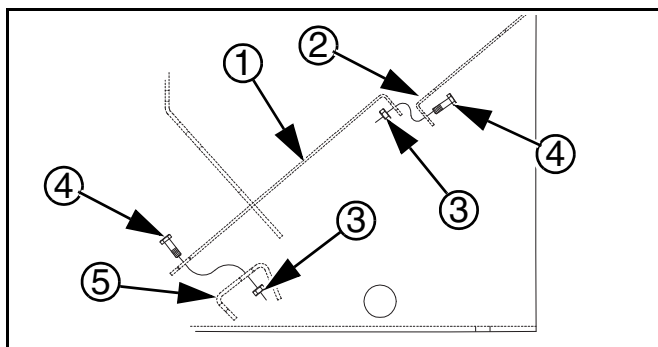

Figure 21
**Refer to Figure 21**
14. The fertilizer cap plate (1) fastened all the way across the bottom of the main seed box (2). Remove and discard all of the nuts (3) and bolts (4) that fasten the fertilizer cap plate to the main seed box, channel (5), and partitions. Remove and discard the fertilizer cap plate.